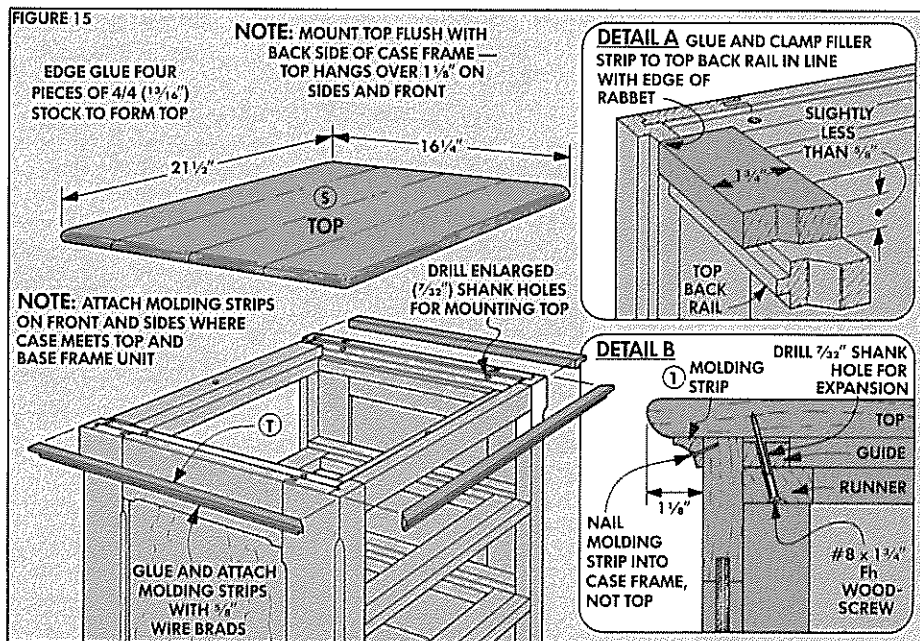
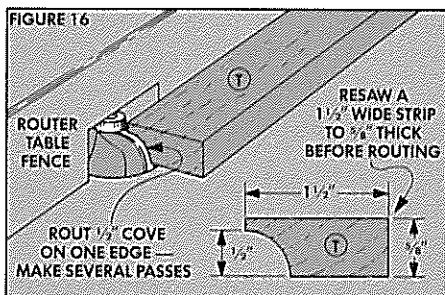

FIGURE 16
FIGURE 17
MAKING THE STRIPS. To make the six strips (T), start by resawing some 1 1/2" wide stock to 3/4" thick. Then rout a 1/2" cove on one edge, see Fig. 16. Next, trim the molding off the outside edge of the workpiece, see Fig. 17.